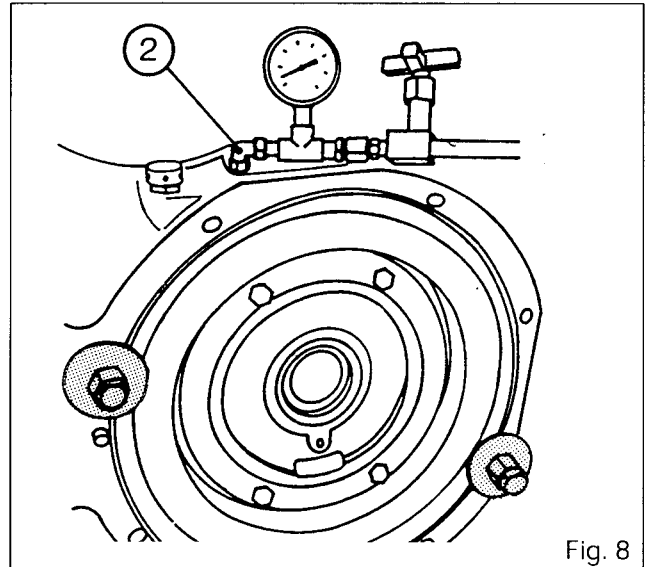

Fig. 8
11. Hold the piston with two large washers and two screws diametrically opposed (Fig. 8).
Leak test (operations 12 to 15, Fig. 8).